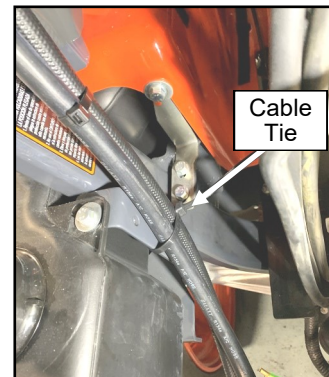

Fig. 7.3 (Cable Tie Hoses)
7.3 See fig. 7.3. Secure both hoses to the vehicle frame using a cable tie as shown. Ensure that the hoses will not contact any sharp edges.